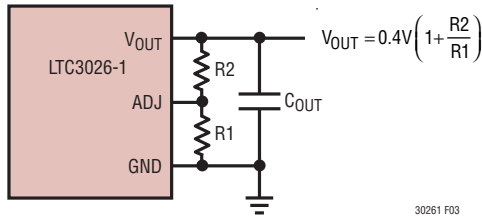

Figure 3. Programming the LTC3026-1
**ADJ (Pin 8):** Output Adjust Pin. This is the input to the error amplifier. It has a typical bias current of 0.1nA flowing into the pin. The ADJ pin reference voltage is 0.4V referenced to ground. The output voltage range is 0.4V to 2.6V and is typically set by connecting ADJ to a resistor divider from OUT to GND. See Figure 3.
The output voltage is set by the ratio of two external resistors as shown in Figure 3. The device servos the output to maintain the ADJ pin voltage at 0.4V (referenced to ground). Thus, the current in R1 is equal to  $0.4V/R1$ . For good transient response, stability and accuracy the current in R1 should be at least 80 $\mu$ A, thus, the value of R1 should be no greater than 5k. The current in R2 is the current in R1 plus the ADJ pin bias current. Since the ADJ pin bias current is typically <10nA it can be ignored in the output voltage calculation. The output voltage can be calculated using the formula in Figure 3. Note that in shutdown the output is turned off and the divider current will be zero once  $C_{OUT}$  is discharged.